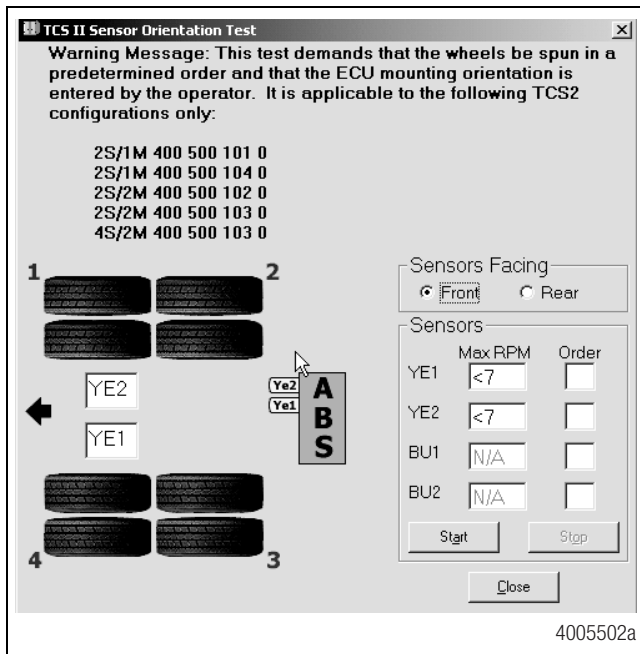
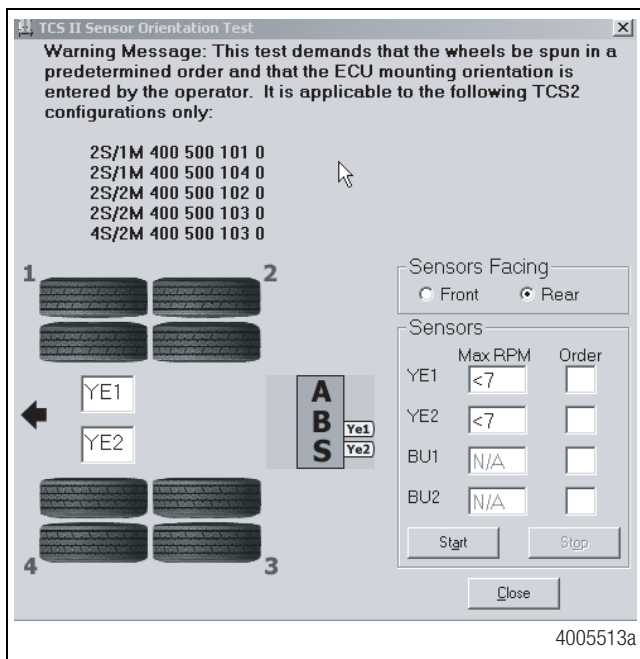

Figure 17
Figure 18
4. At the **Trailer Main Menu**, click on **Component Test**, then select **Sensor Orientation Test** to display the **Sensor Orientation Test** screen. Figure 17.
Refer to Figure 17 and Figure 18 for illustrations of the ECU mounted with sensors facing forward and rear. The correct mounting orientation must be selected prior to starting the test.
- Follow the screen prompts, starting with 1, to rotate each sensed wheel end at a rate of 1/2 revolution per second. This rate equals a wheel speed of approximately 4 mph (7 kph). As each sensed wheel is rotated, check the color of the sensor identification block on the screen for results. Sensor identification boxes are located in the bottom left portion of the **Sensor Orientation Test** screen. Figure 18.
- Verify there is sensor output. If there is no sensor output, verify that a tone ring has been installed and that the sensor is pushed all the way in against the tone ring. Perform the necessary repairs and repeat the test. If the problem persists, contact Meritor WABCO (800-535-5560). Sensor output appears in the Sensors field located in the bottom right portion of the **Sensor Orientation Test** screen. Figure 17 and Figure 18.